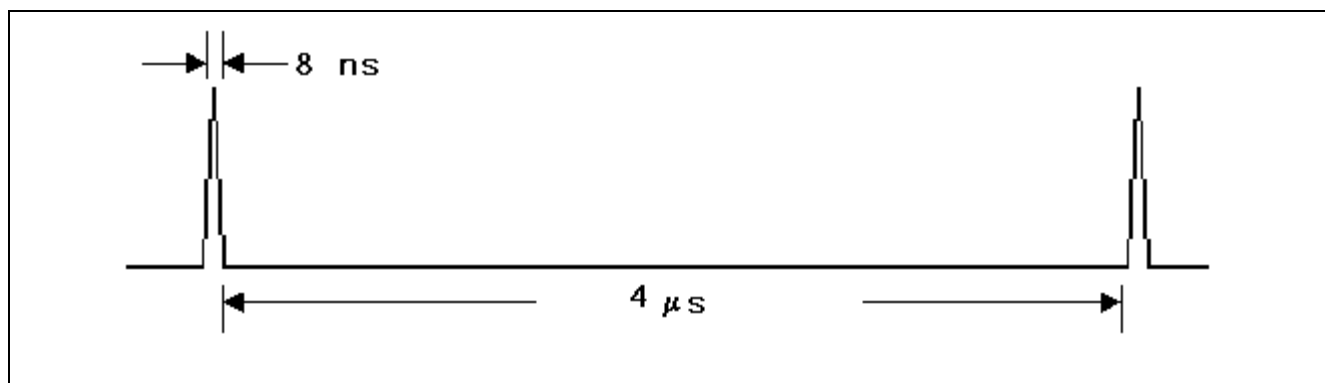

Figure 13. Signal on RXSTx1 when BIST is Successful
16. The board should already in BIST mode at this time. Verify the oscilloscope display on RXSTA1 matches with the waveform in *Figure 13*.